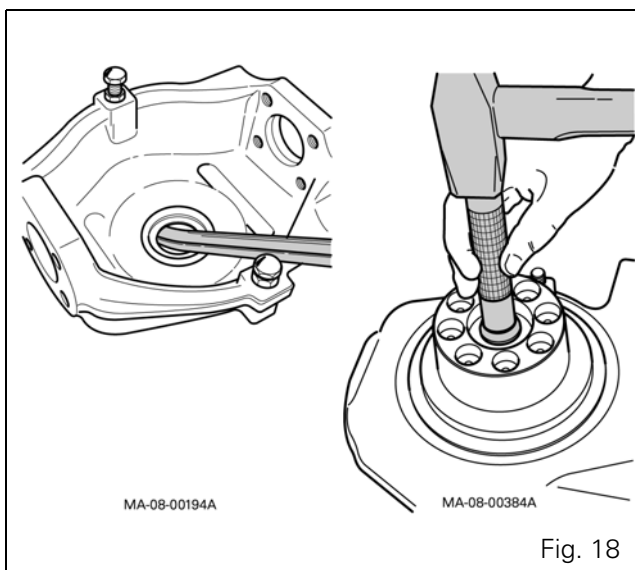

Fig. 18
Place the swivel housing on a level surface and extract the seal ring with a lever (Fig. 18).
18. Turn the swivel housing to extract the ring using a drift and a hammer (Fig. 18).